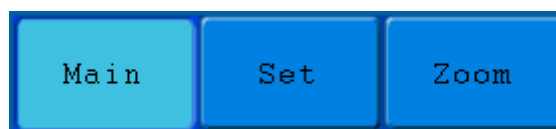

Figure 4-14 Time Base Mode Menu
3. **HORIZ MENU** button: with this button pushed down, the screen shows the operating menu (see *Figure 4-14*).